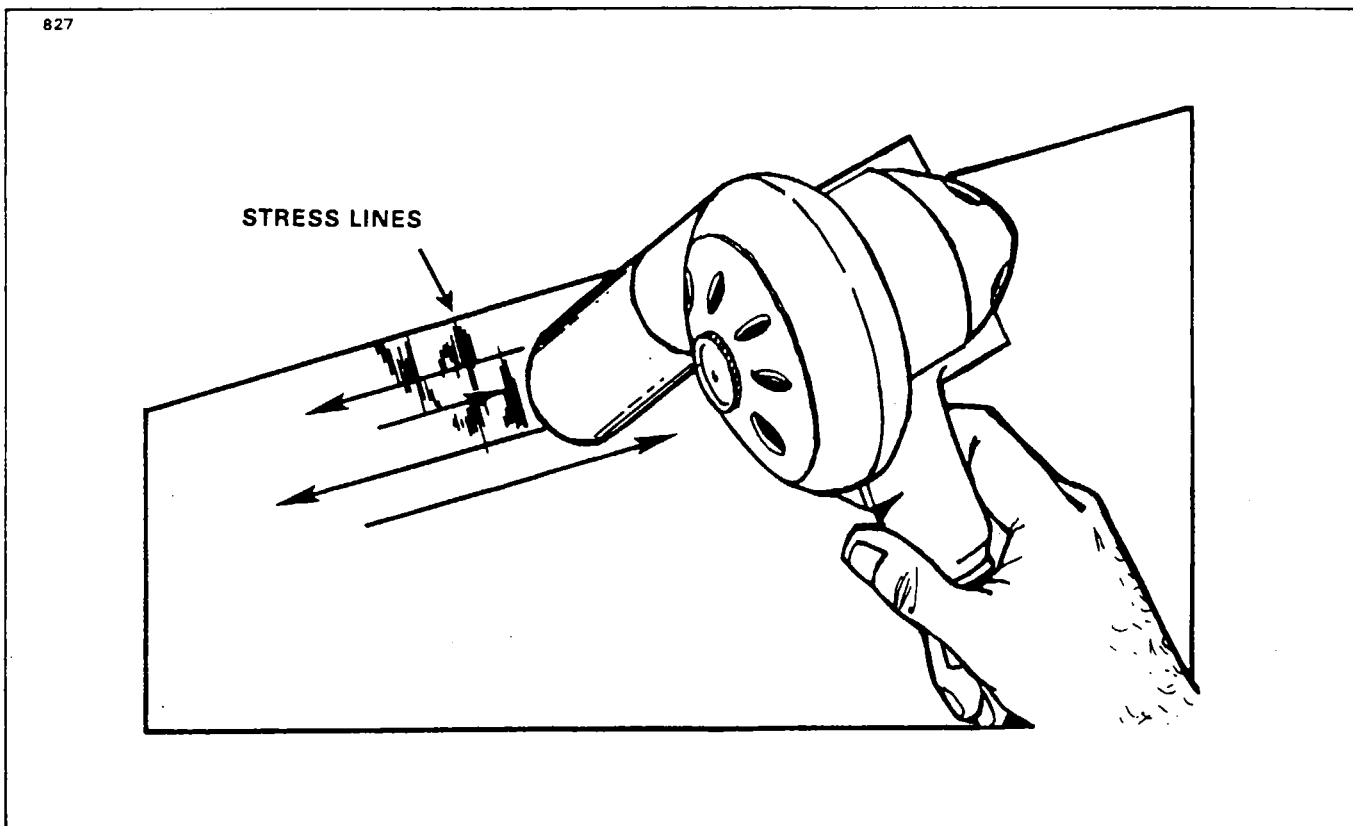

Figure 4-9. Repair of Stress Lines
- f. Stress Lines: (Refer to Figure 4-9.)